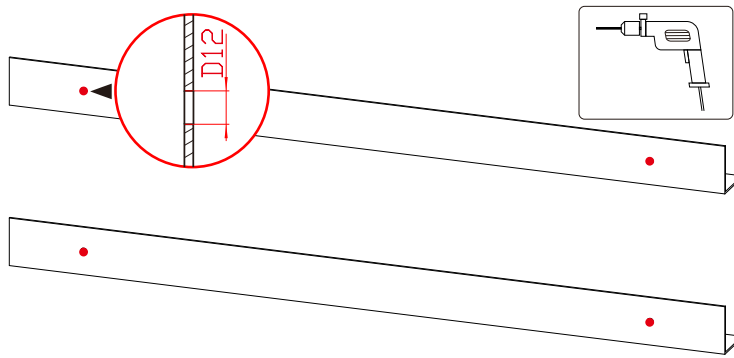

Figure3-14 Drill holes (unit: mm)
- Step 3 Use the electric drill to drill holes on the bracket according to the marked position. The drilling diameter is  $\Phi 12$ mm, as shown in Figure3-14.